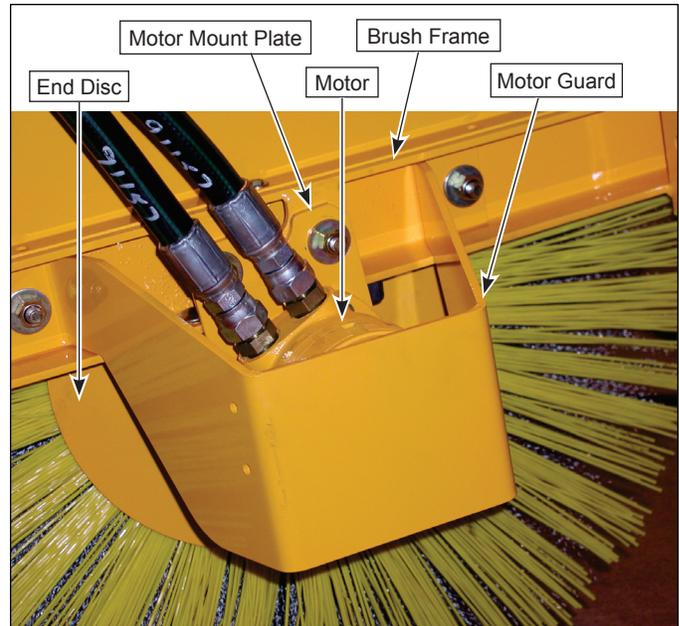

Figure 1
2. Remove (2) 1/2-13 x 1-1/2" capscrews, flat washers, lock nuts and motor guard from brush frame. Retain guard and mounting hardware. See Figure 1.
3. Remove (2) 1/2-13 x 1" capscrews, flat washers, lock nuts and motor mount plate from brush frame. Slide motor out of mating splined hub. Let motor hang on hoses. Retain mounting hardware. See Figure 1.
4. Install motor mount plate on brush frame using original hardware. See Figure 1.
5. Install motor guard on brush frame with original hardware. See Figure 1.